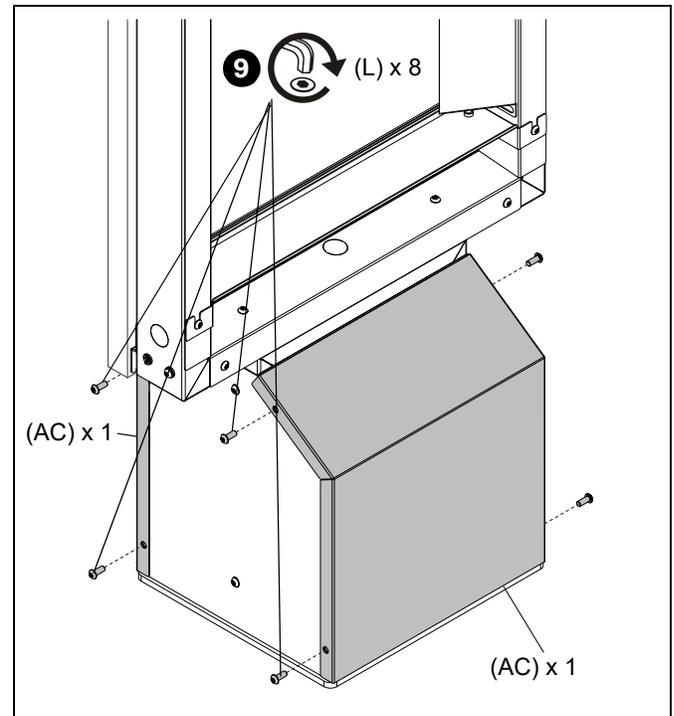

Figure 31
- Install two large covers (AC) to the front and rear sides of the base (AA) using eight M8 x 20mm security screws (L) (four per cover). (See Figure 31)